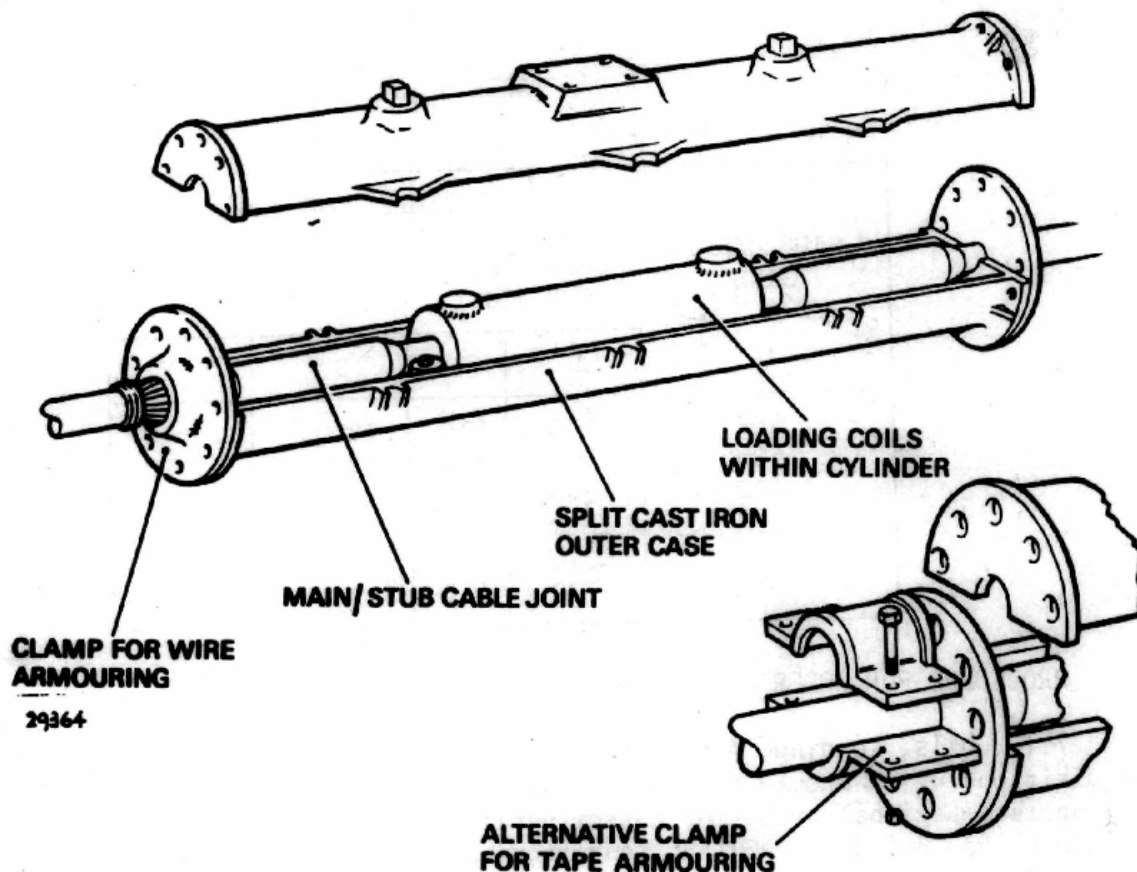

FIG. 6 TORPEDO TYPE LOADING COIL CASE.
4.2 Torpedo Type (Fig 6) The case has two stubs and is buried directly in the ground. The coils (up to 74) are sealed in a steel cylinder which has a stub at each end. The stub cable joints are made close to the cylinder and the entire assembly enclosed in a split cast iron case.